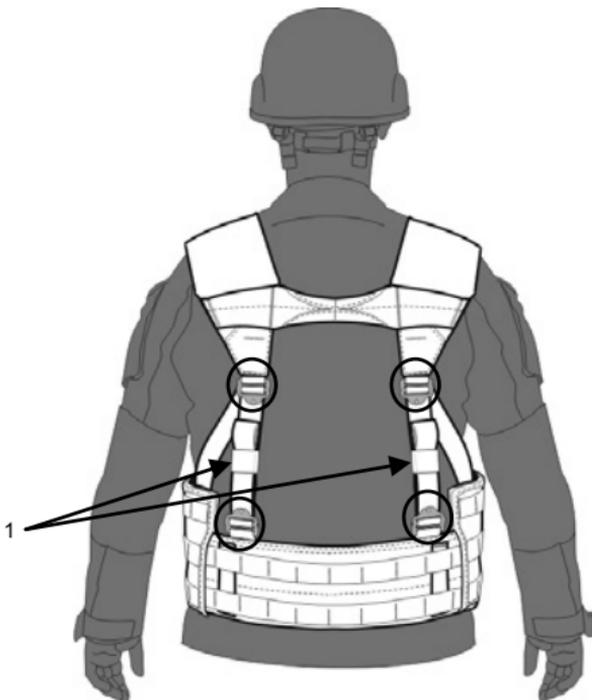

Figure 7. Secured Free-Running Ends in Elastic Keepers.
4. Secure the free-running ends of all webbing with the elastic keepers (Figure 7, Item 1) or tape.